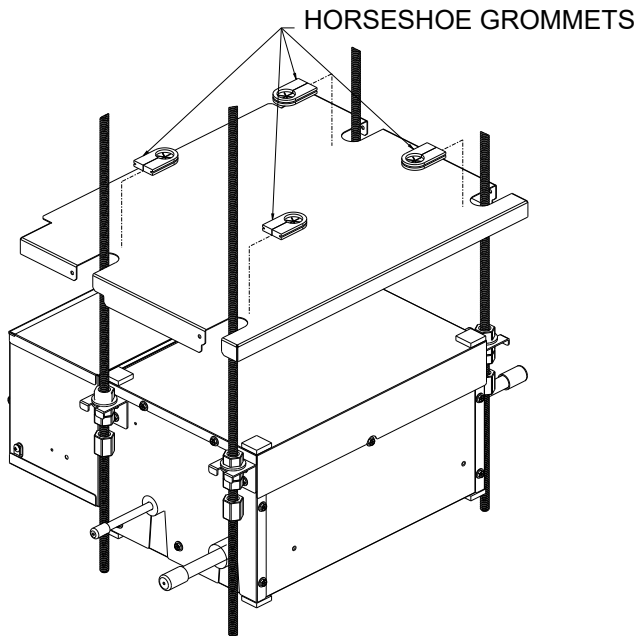

**FIGURE F.2**
- 1.3** Install the horseshoe grommets (Item 16) in the 4 indicated spaces on the top panel around the ceiling rods by pushing them into designated grooves on the panel. (Refer to Figure F.2)